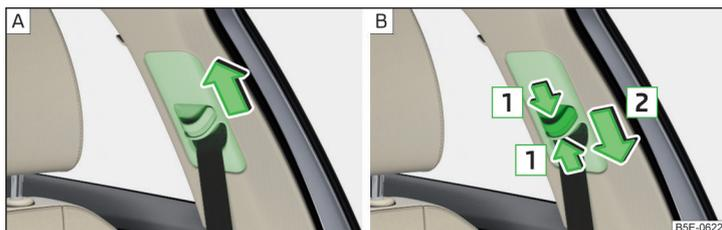

Fig. 6 Seat belt height adjusters for front seats
- Push the seat belt guide loop **upwards** in the direction of arrow » Fig. 6 - **A**.
- Or: push together the mechanism in the direction of arrows **1** and push the return pulley **downwards** in the direction of arrow **2** » Fig. 6 - **B**.